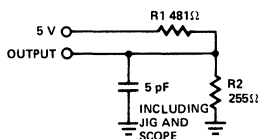

Figure 1b
- $t_{HZCE}$  and  $t_{HZWE}$  are specified with  $C_L = 5$  pF as in Figure 1b. Transition is measured  $\pm 500$  mV from steady state voltage.